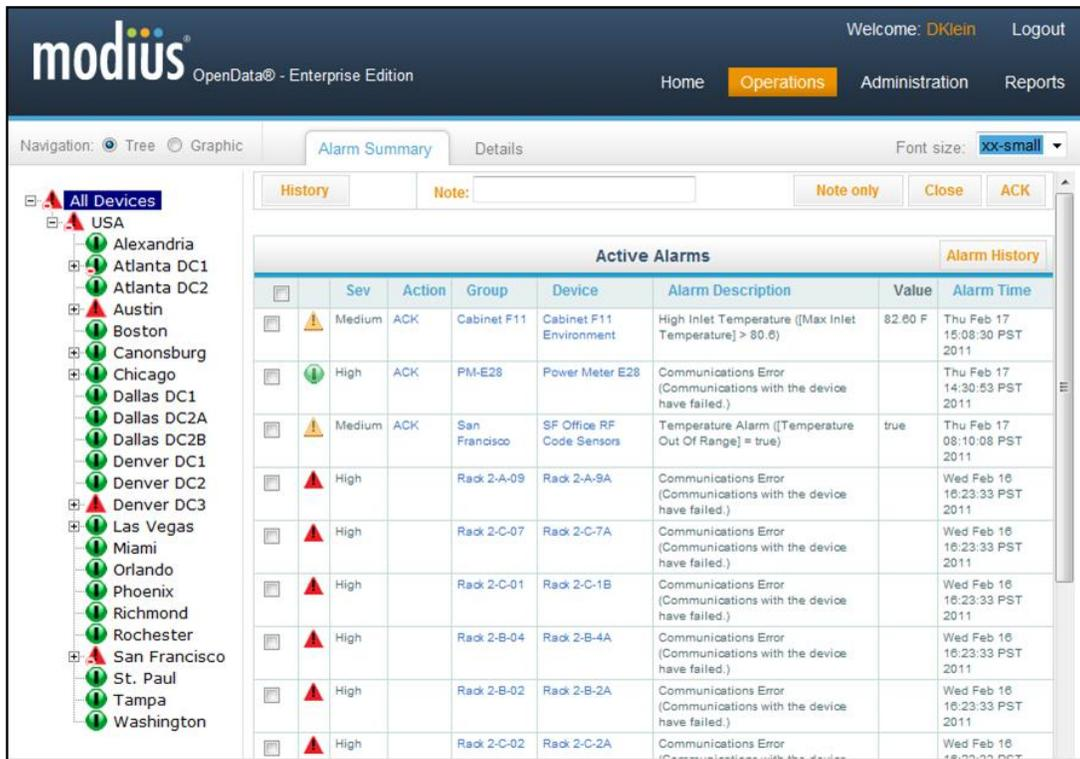

Figure 2: Unified alarming with conditional, user-defined thresholds
2. **OpenData provides a unified alarm system to mitigate operational risk.** With OpenData, end-users can easily set thresholds on any data point, on any device, and edit thresholds at any time. Alarms can be configured with multiple levels of escalation, each with a unique action. Alarms can be managed independently or in bulk, and the user interface displays different alarm states at a glance. Figure 2, below, displays the Alarm Summary page of unified alarming with conditional, user-defined thresholds.